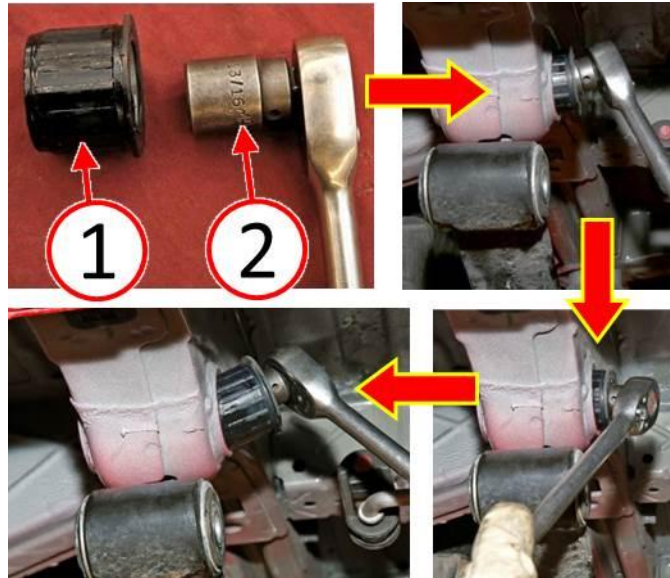

Fig. 8 Remove Bushing
9. Using a socket (2) that fits as closely as possible the inside diameter of the bushing (1), and a long handled wrench. Insert the socket into the bushing then tilt and rock the bushing back and fourth using the wrench handle as leverage. The penetrating lubricant will assist in bushing removal allowing the bushing to walk out easily with the rocking motion (Fig. 8).